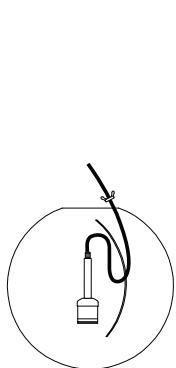

Fig. 2
3. Place all parts on a level work surface. Slide hood (I) up cord (H) to expose socket.
4. Install one 40W Max., Type A bulb into socket (M).
5. Un-thread wing nut (J) from tube (L) and slide it up the cord so it's out of the way.
6. Remove shade bracket (K) from tube (L) and turn it so it's parallel to the socket assembly as shown in Fig. 1. Place the socket assembly and the bracket into glass shade (N) as shown in Fig. 2.